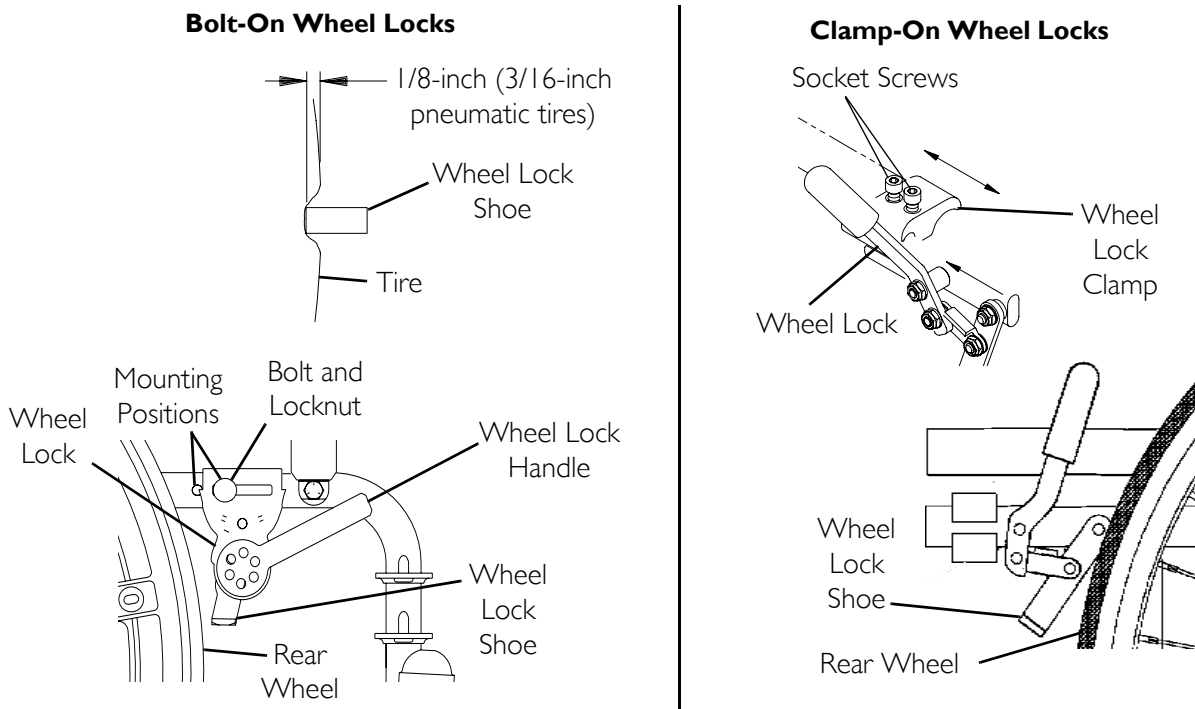

FIGURE 8.4 Adjusting Patient-Operated Wheel Locks
NOTE: For this procedure, refer to FIGURE 8.4.
2. Perform one (1) of the following:
- Clamp-on wheel locks - Loosen the two (2) socket screws that secure the wheel lock to the wheelchair frame.
6. Measure the distance the wheel lock is embedded into the tire as shown in FIGURE 8.4.